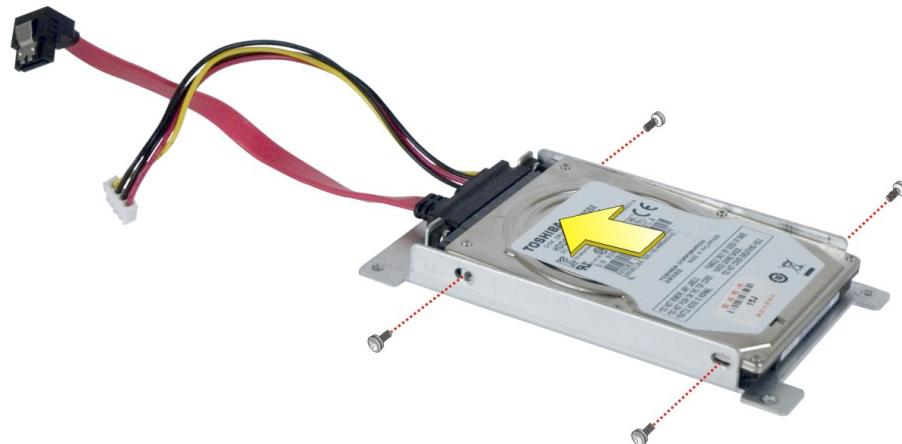

Figure 3-6: HDD Retention Screws
Step 4: Secure the hard drive to the bracket. Secure the hard drive to the bracket with four retention screws (**Figure 3-6**).